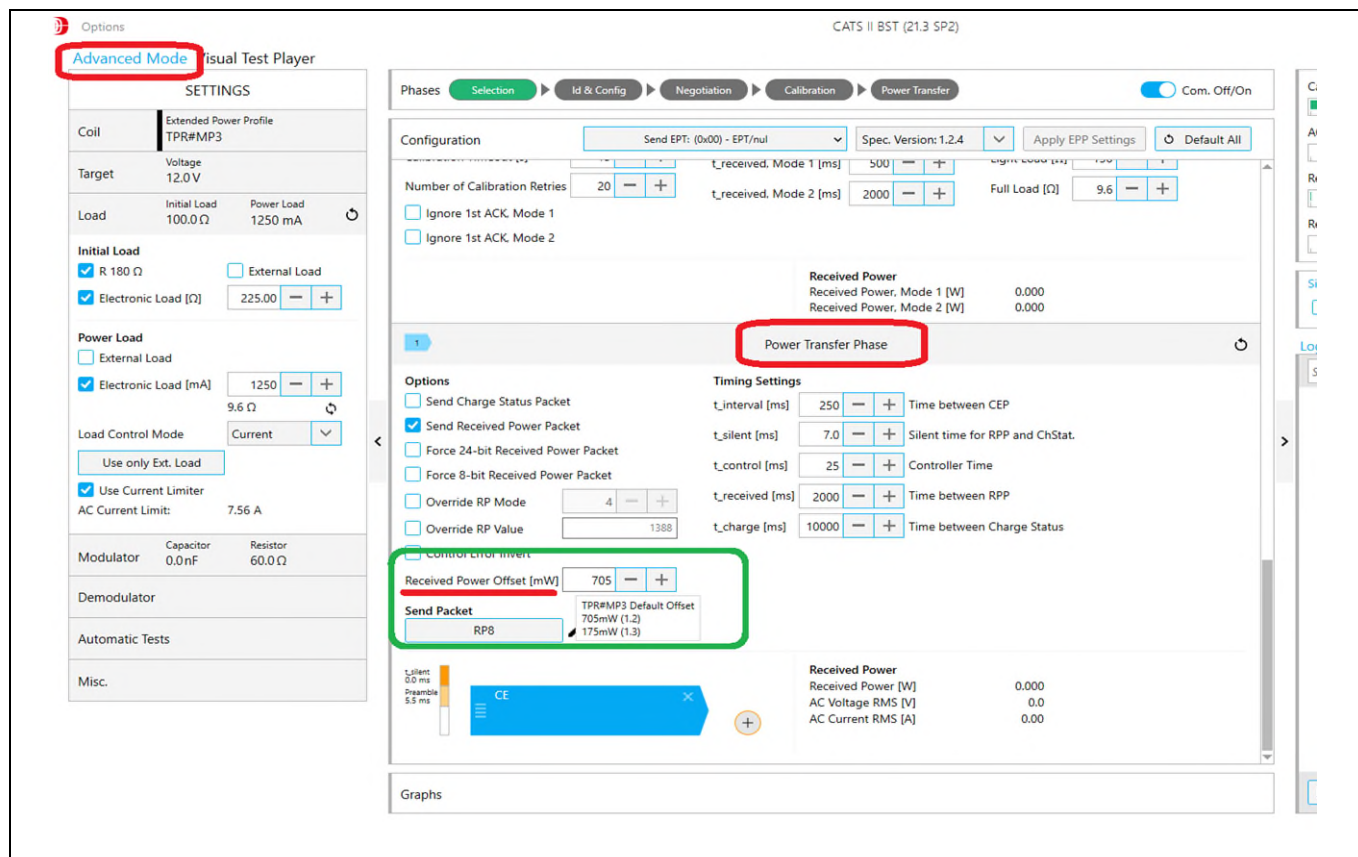

Figure 34 Received Power Offset in Advanced mode
1. Enable the Signal Strength Finder in the compliance tester tool. See Figure 34.
Received power offset is a modifiable parameter in the Power Transfer Phase setting in Advanced mode of the Qi compliance tester (see Figure 34).